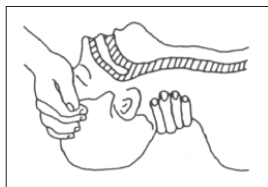

Figure 1
- the neck and tilt the head backwards to free the airway system (**Figure 1**).